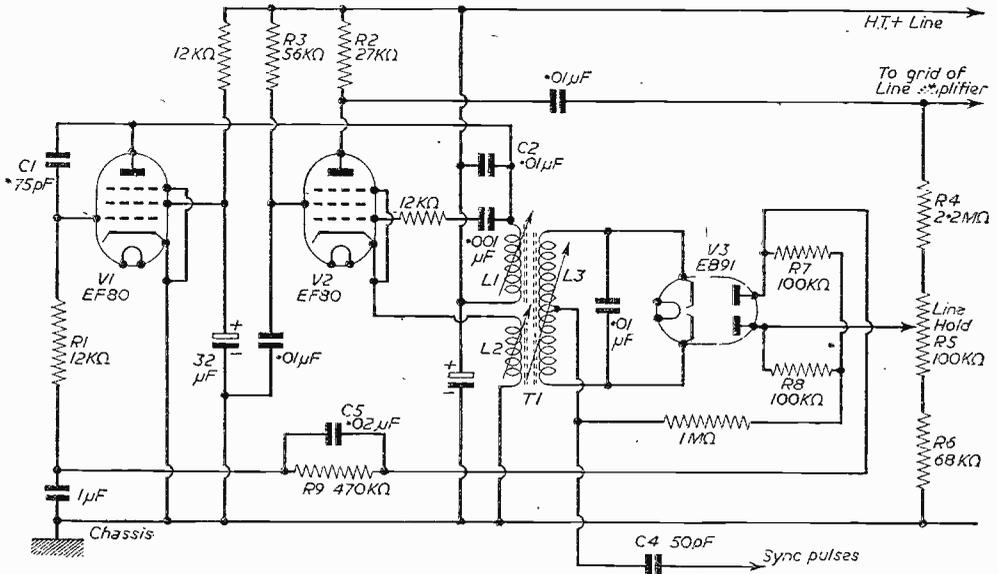

Fig. 44.—The flywheel sync section of the Ferguson model 991T.
**B**EFORE we leave the subject of synchronising we will first briefly examine the flywheel method adopted by Thorn Electric, Ltd., in their recent Ferguson television receivers. The appropriate circuit of the model 991T is shown in Fig. 44. Here, three valves are used; V2 is the line generator valve, which is electron coupled in the cathode circuit by means of winding L2 on the transformer T1. This forms a fairly conventional type oscillator, and although the voltage across the grid winding L1 is sinusoidal, owing to the operating conditions of V2, governed by the values of the anode and screen resistors, the output appearing across the anode load resistor is of square waveform. This output voltage is applied through a suitable correcting network to the control grid of the line output valve to produce a linear current rise in the deflector coils in the normal way.
As will be seen, the three windings on transformer T1, Fig. 44, are shown to employ variable tuning by iron-dust cores which can be adjusted in the usual way. L1 and L2 determine the frequency of the oscillator, and they are initially set in the factory so that when the sync pulses are disconnected from the discriminator, for the purpose of this test, an approximate mid-setting of line hold control (R5) will cause the oscillator frequency to correspond to that necessary for accurate synchronism. It is possible, however, due to ageing valves and components after the receiver has been in service for a while, that the oscillator tuning will need to be readjusted to centre-up on the range of the hold control the correct oscillator frequency. This can be performed fairly easily by removing the sync pulses (by disconnecting C4, for example); setting R5 to its mid position, and then carefully adjusting L1 until the picture is seen to resolve horizontally in the centre of the raster. This is an extremely critical adjustment since it necessitates finding the correct oscillator frequency without the aid of the sync pulses; nevertheless, as will be discovered, the desired setting is fairly easy to establish.
The cause of the occurrence becomes obvious when it is realised that the discriminator section of a flywheel circuit is, in effect, a phase demodulating system, very similar to that used in F. M. receivers. Thus, any 50 c.p.s. phase modulation present on the vision signal is demodulated and appears in the form of a hum voltage at the control grid of V1—Fig. 44. The effect of the ripple voltage is also aggravated due to the necessary long time-constant of C5 and R9.
Now, as we have already seen, a slight change in bias potential at the control grid of V1—Fig. 44—tends to alter the phase relationship between the sync pulses and the oscillator output voltage. Slight potential changes—within the potential range of the line hold control, for instance—alter the horizontal position of a picture within the raster proper. The actual direction (left or right) of picture displacement due to this cause depends on whether the potential changes positively or negatively. For we have already seen that, provided the picture is correctly centred, magnetically, it should set in the centre of the screen when the phase between the two voltages corresponds. And that line hold control adjustment—which effectively modifies V1 control grid potential and thus the phase relationship—simply alters the apparent horizontal position of the picture on the tube face.
In an earlier part of this series we considered the general cause of hum effects, so here we shall deal with those arising from a defect in the flywheel synchronising network proper. The main offender in this respect is the reactance valve (V1—Fig. 44) itself. In the Ferguson receiver an EF80 is used, and this has frequently been known to develop a diminutive inter-electrode leakage to modulate internally the electron stream to give rise to the effect. The degree of leakage